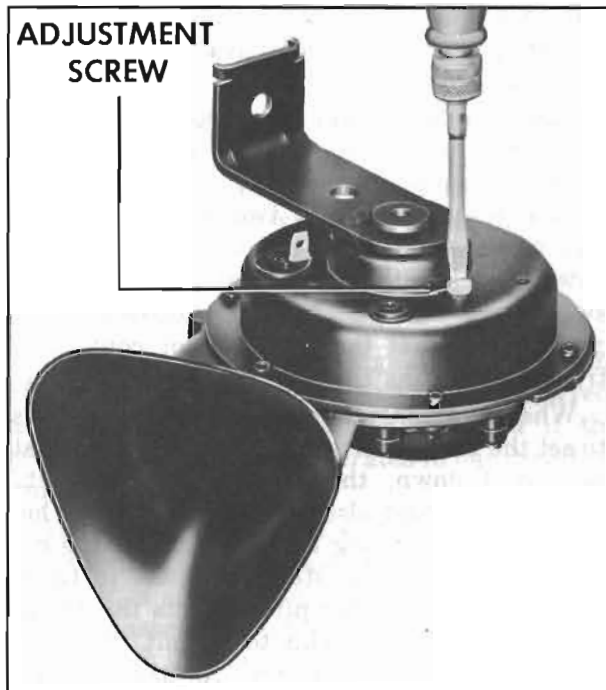

Figure 10-63—Horn Current Draw Adjustment
3. Adjust to specified current draw if necessary, by turning adjusting screw clockwise to decrease or counterclockwise to increase current draw. See figure 10-63.